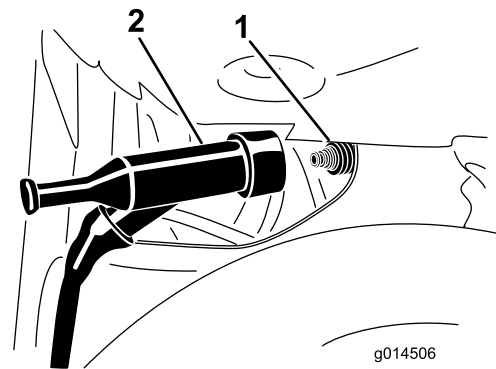

Figure 18
2. Pull the wire off of the spark plug (Figure 18).